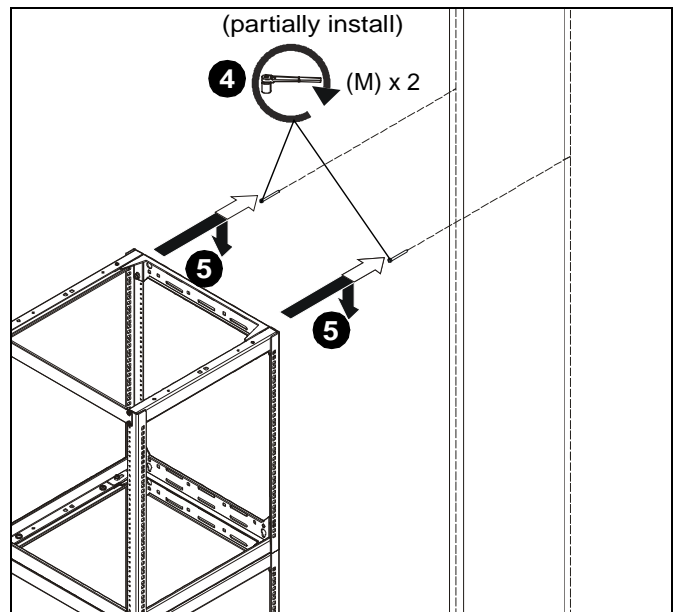

Figure 19
4. Partially install two 5/16" x 3 1/2" lag bolts (M) into upper holes. (See Figure 19)
5. Hang rack onto bolts. (See Figure 19)